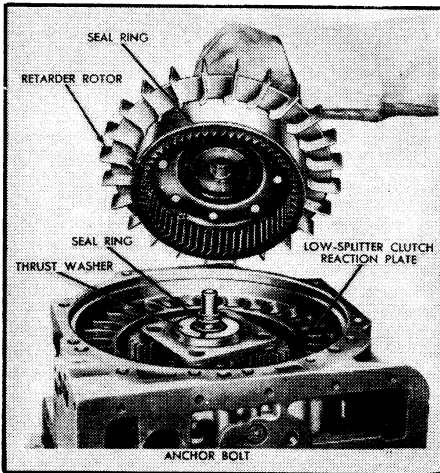

Fig. 6 Hydraulic retarder rotor
14. Lift out retarder rotor and shaft, Fig. 6.
16. Remove low spitter clutch reaction plate, Fig. 6.
- Install hook-type ring seal around splitter ring gear of turbine shaft and retarder rotor, Fig. 6.